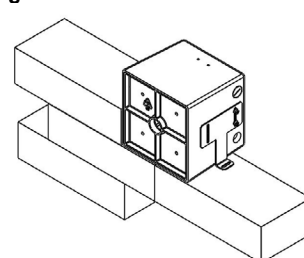

Figure 3:
2. Install (4) threaded M4 rods into the installation housing and hand tighten until fully secure, Figure 3.
5. Attach the installation housing to concrete forms by using (8) wing nuts provided. Ensure that the front face of the installation housing will be flush with the finished surface.